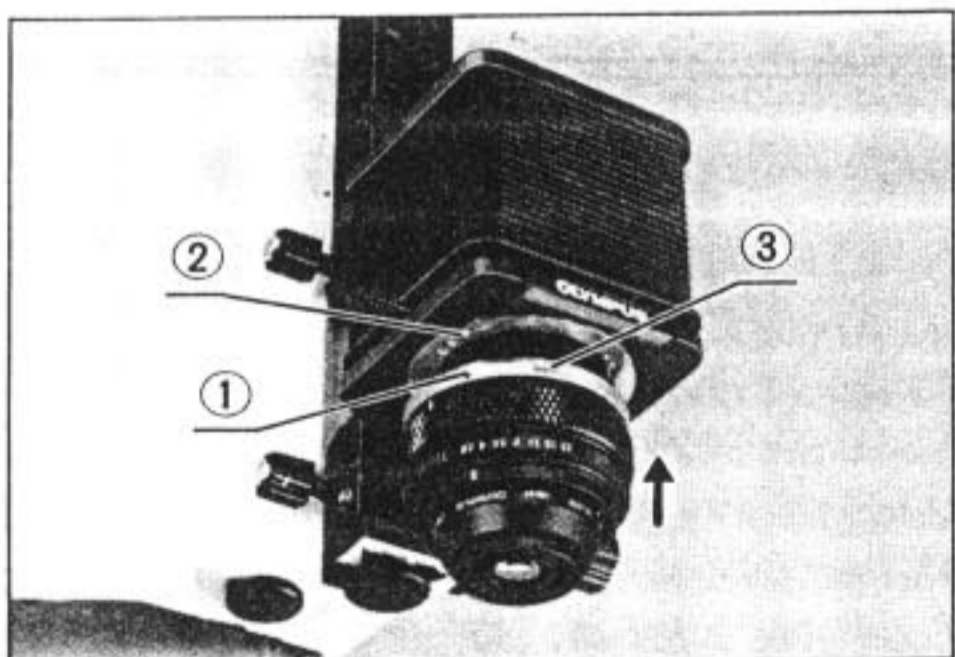

Fig. 4
To attach a choice of photo lens or the light excluding collar on the lens mount of the bellows, align both red dots ① & ② on lens barrel (or collar) and lens mount respectively, insert the lens (collar) into the lens mount and turn the lens clockwise until it clicks in position. (Fig. 4)